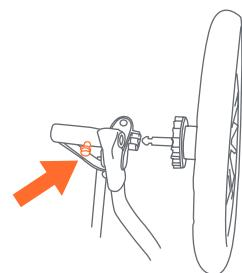

Fig. 5b
• To remove the rear wheels, press the wheel release button (Fig. 5b) on the rear tube and pull the wheel from the hub.